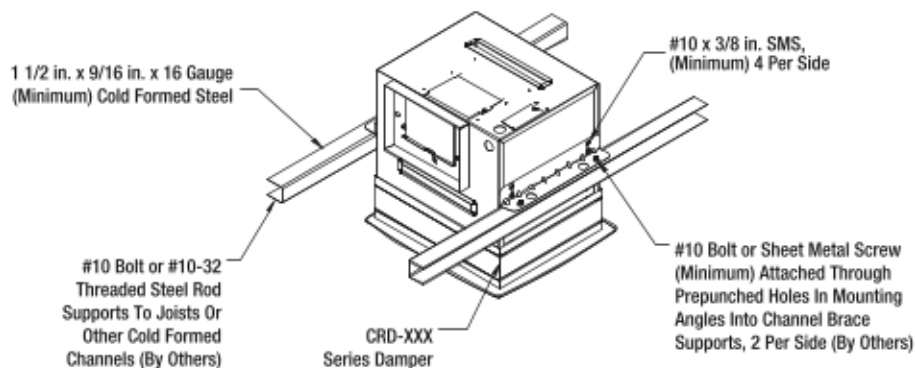

Figure 6
2. Support fan/damper assembly using (2) minimum 16 ga. x 1½ in. steel channels with ¼ in. flanges. Suspend from joists or cold rolled channels (do not suspend from beams). Alternatively, bolt channels ends directly to joists or other cold rolled channels using minimum #10 bolts. See **Figure 6**.